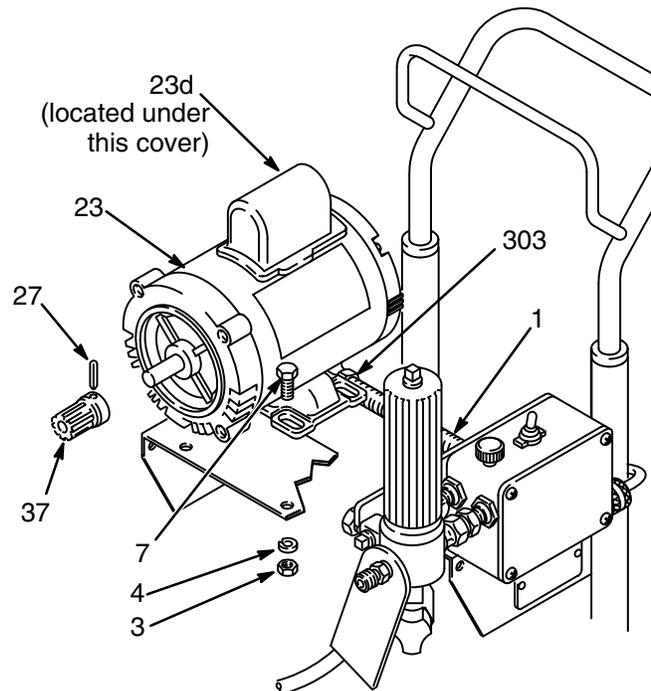

Fig 22-2
3. Drive out the pin (27) and remove the gear (37). See Fig 22-2.
6. Remove the motor mounting screws (7). Lift the motor and carefully guide the wires through the pressure control connector (303). Remove the conduit (1) from wires. See Fig 22-2.
1. Remove the capacitor (23d) cover. See Fig 22-2. Remove the flag connectors from the old capacitor and connect them to the new capacitor. Replace the cover.